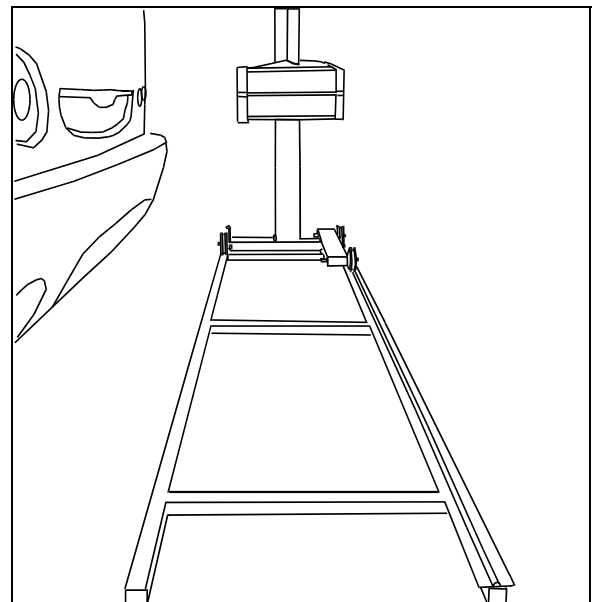

FIGURE 30: INSTALLATION OF HOOPY 100 ALIGNER 06496
5. Install “Hoopy 100” Aligner onto support rail (Fig. 30).
3. Install "Hoopy 100" Aligner onto support rail (Fig. 30). Turn aligner ON.